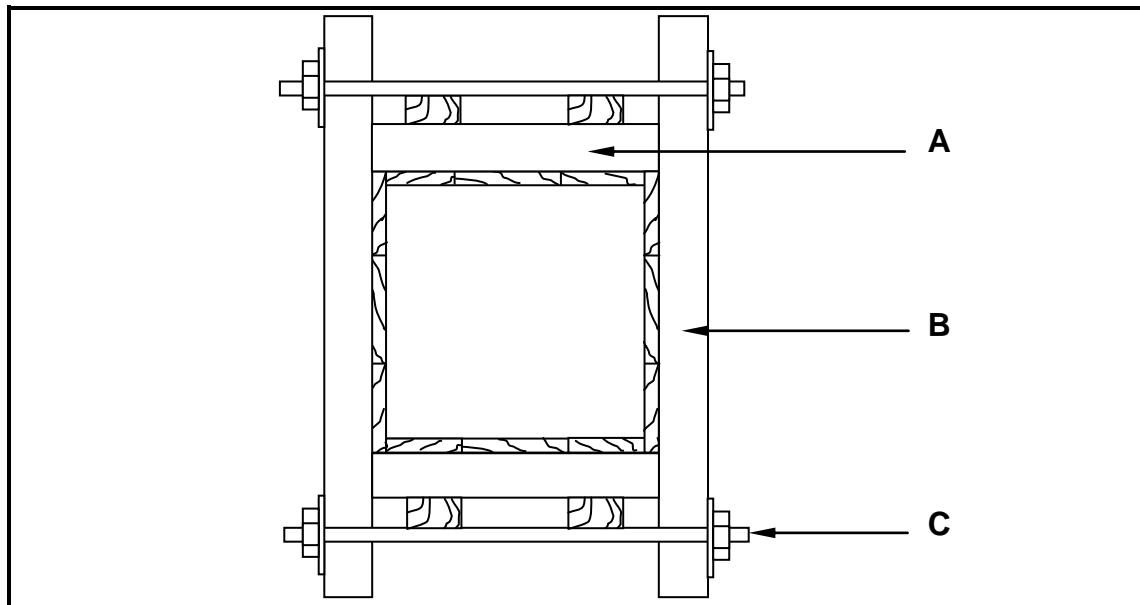

FIGURE 5.4
- 5.4 FIGURE 5.4 below shows the formwork for a square concrete column. Study the picture and label parts **A**, **B** and **C**.